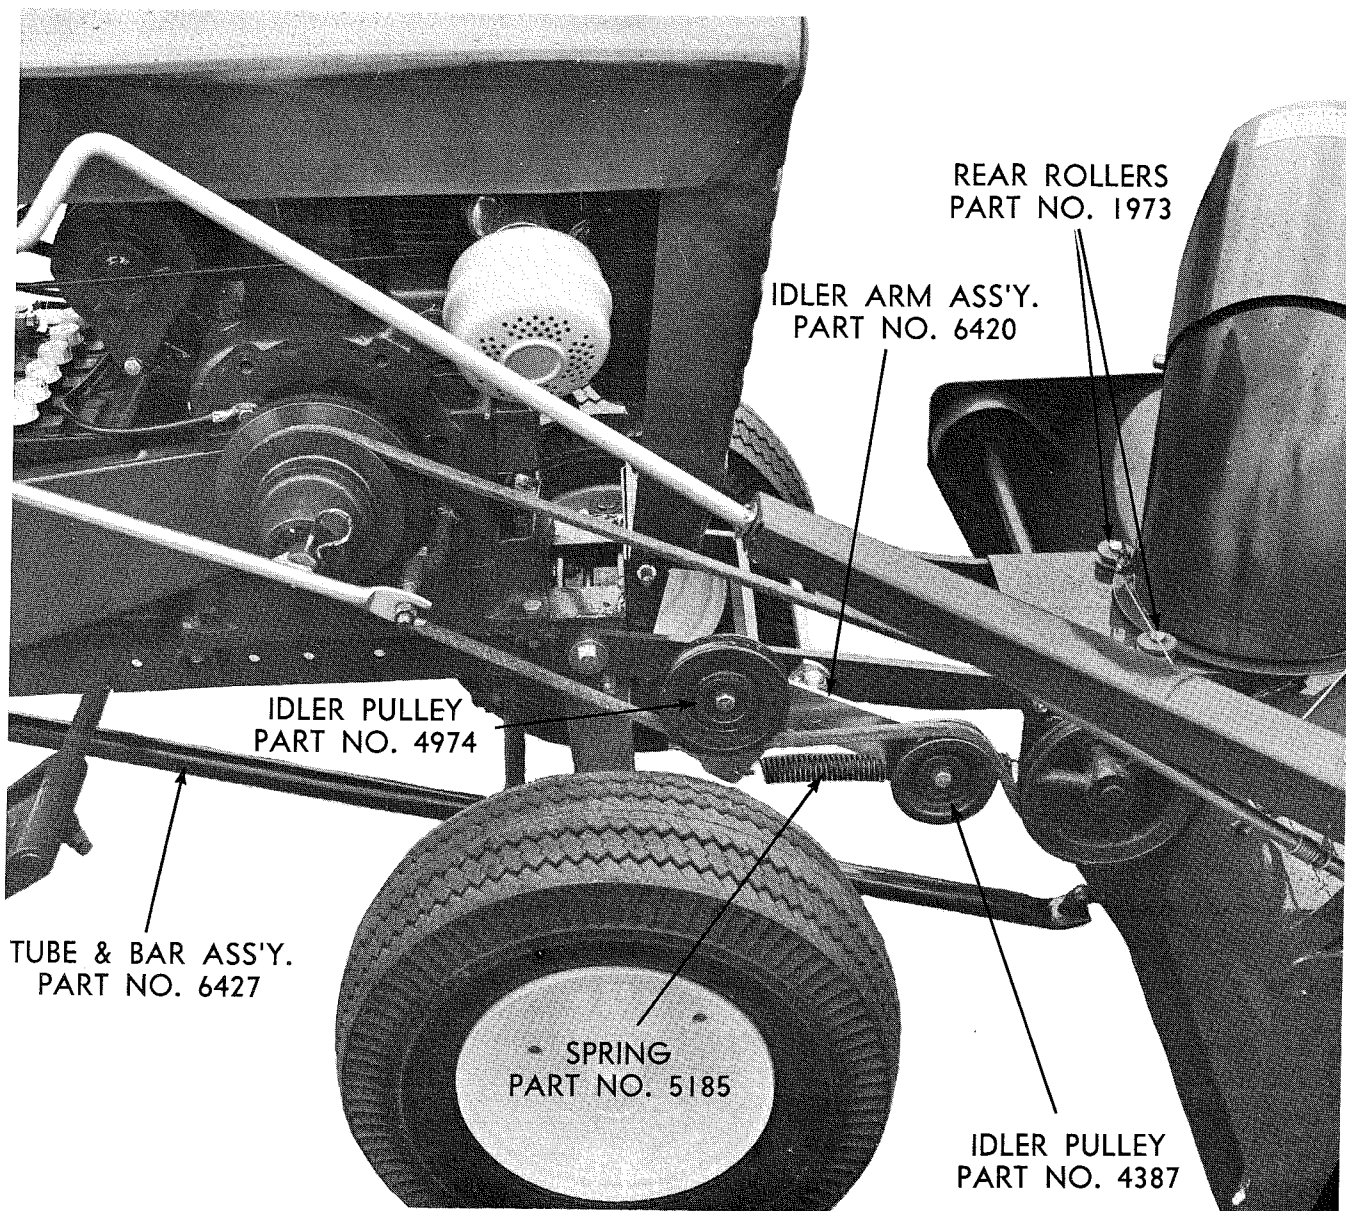

Figure 2
8. Install Spring, Part No. 6651, between arm on Idler Arm Assembly, Part No. 6420 and hole in wrapper assembly (Fig. 2). Place Belt Idler Pulleys, Part Nos. 4974 and 4387 and in inner groove on the power take-off clutch. Make sure that the Belt Guide Bracket, Part No. 6423 is correctly positioned to retain belt in groove of the pulley without rubbing back of belt. **CAUTION:** Check for proper alignment of pulleys.